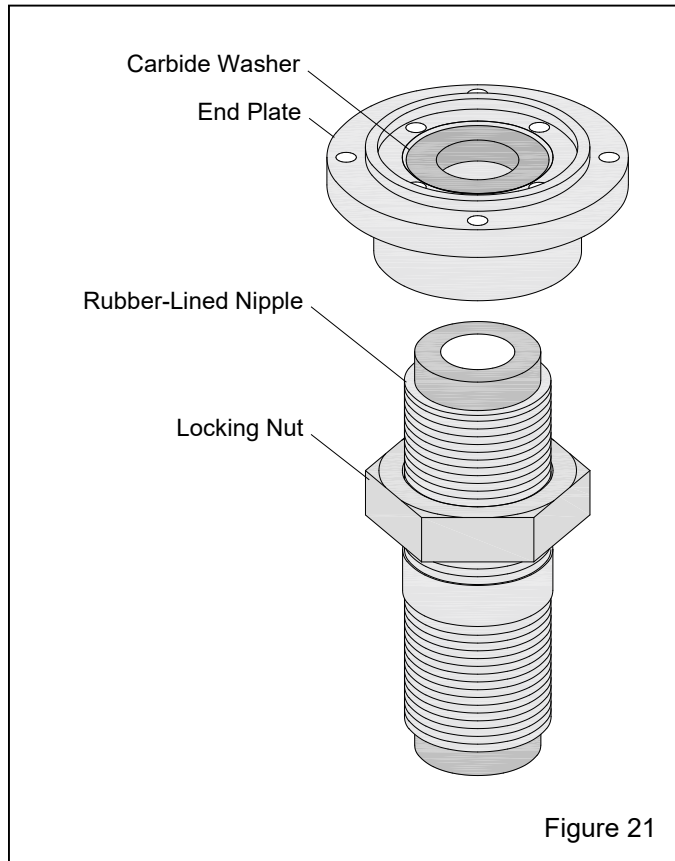

Figure 21
**9.7 Reassemble Rear End Assembly – Figure 21**
**9.7.2 End plate assembly – Figure 21**
**9.7.2.3** Screw the locking nut onto the long end of the rubber-lined nipple, as shown in Figure 21.